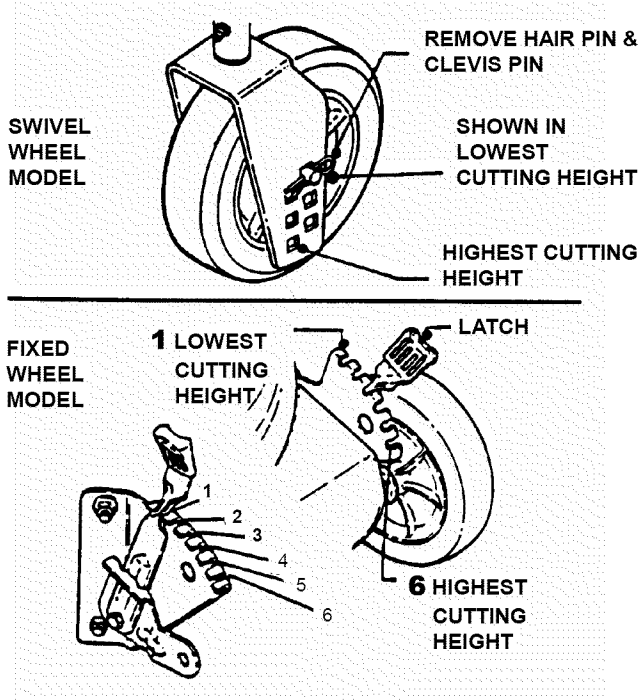

FIGURE 2.7
- Fixed Wheel Models:** Pull the height adjusting latch outward and move to desired cutting height. See Figure 2.7.